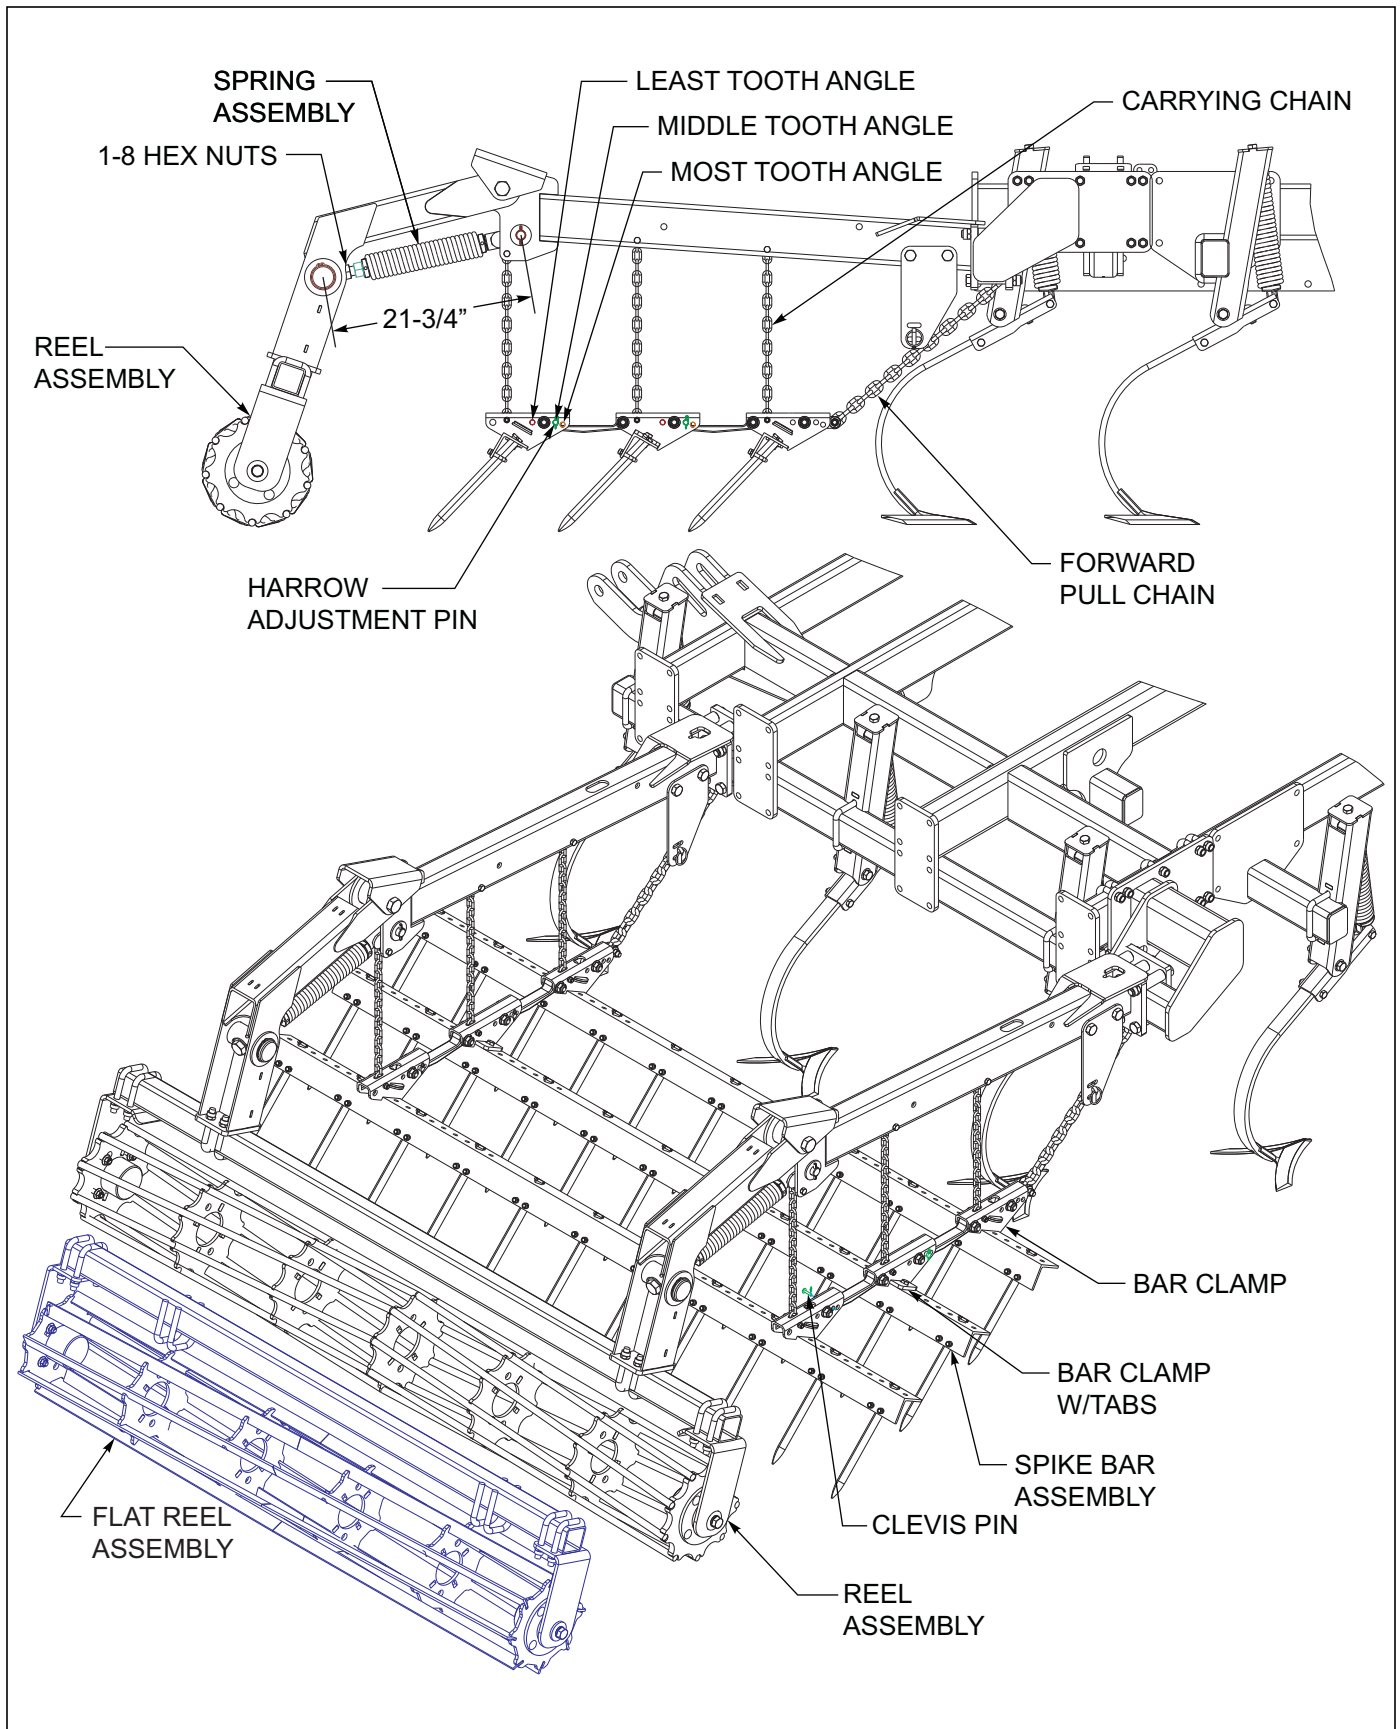

Figure 4-27: 3 Row Spike and Reel Adjustments
3. For the most aggressive spike tooth action, install the harrow adjustment pin in the forward mounting hole over each bar clamp for each spike bar **See Figure 4-27..** This will position the spike teeth to be in the most vertical position. In wetter or conditions with some residue, lower the spike tooth angle by positioning the harrow adjustment pin in the middle or rear hole. This will allow the teeth to lay flatter and shed more residue.